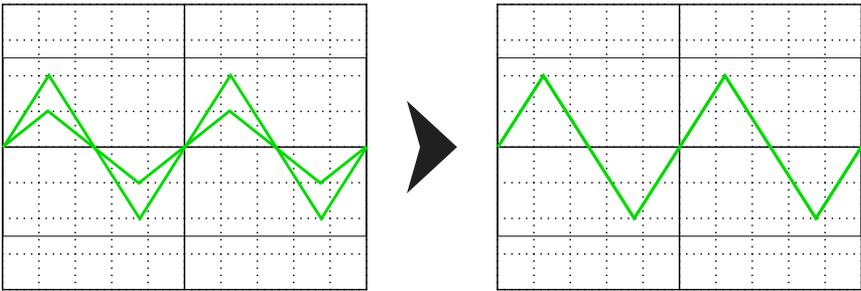

fig. 9, VCO modulation amplifier calibration oscilloscope display.
- Observe waveform on oscilloscope display. Adjust until channel 2 waveform is identical to channel 1 (fig. 9). MODAMP adjusts amplitude of output, MODBIAS adjusts baseline shift from zero.